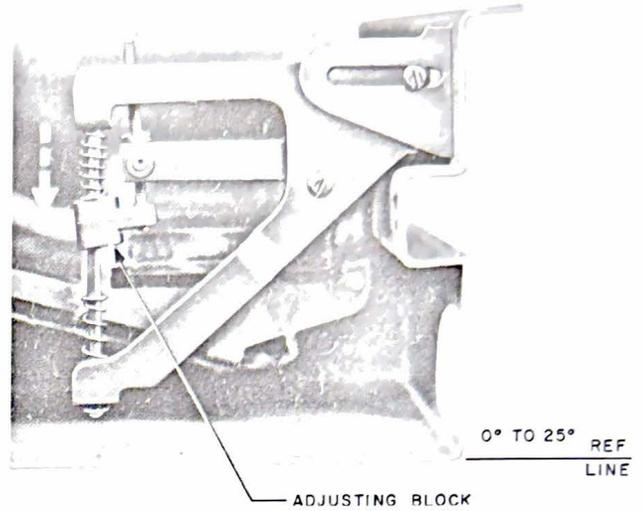

Fig. 7 - Installation at 0 to 25 Degrees
- When the mounting is installed at an angle of 0 to 25 degrees from the horizontal, the upper spring on the counterbalance will control the PIVOT BAR action. Loosen the lock nut on the adjusting screw and turn the screw until the counterbalance arm is approximately parallel with the bracket (Fig. 7). The upper spring should be exerting a downward pressure on the adjusting block. A No. 48 tool may be used for making this adjustment.